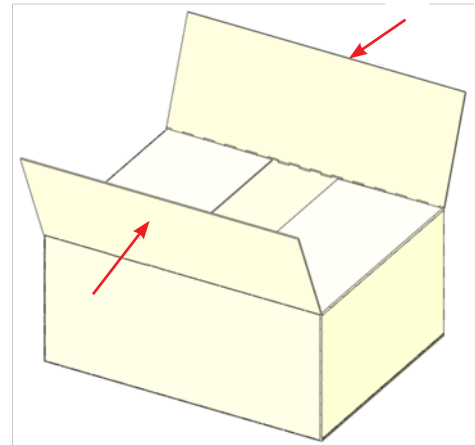

Figure 39: Fold Major Flaps
2. Fold major flaps inward, as shown in Figure 39